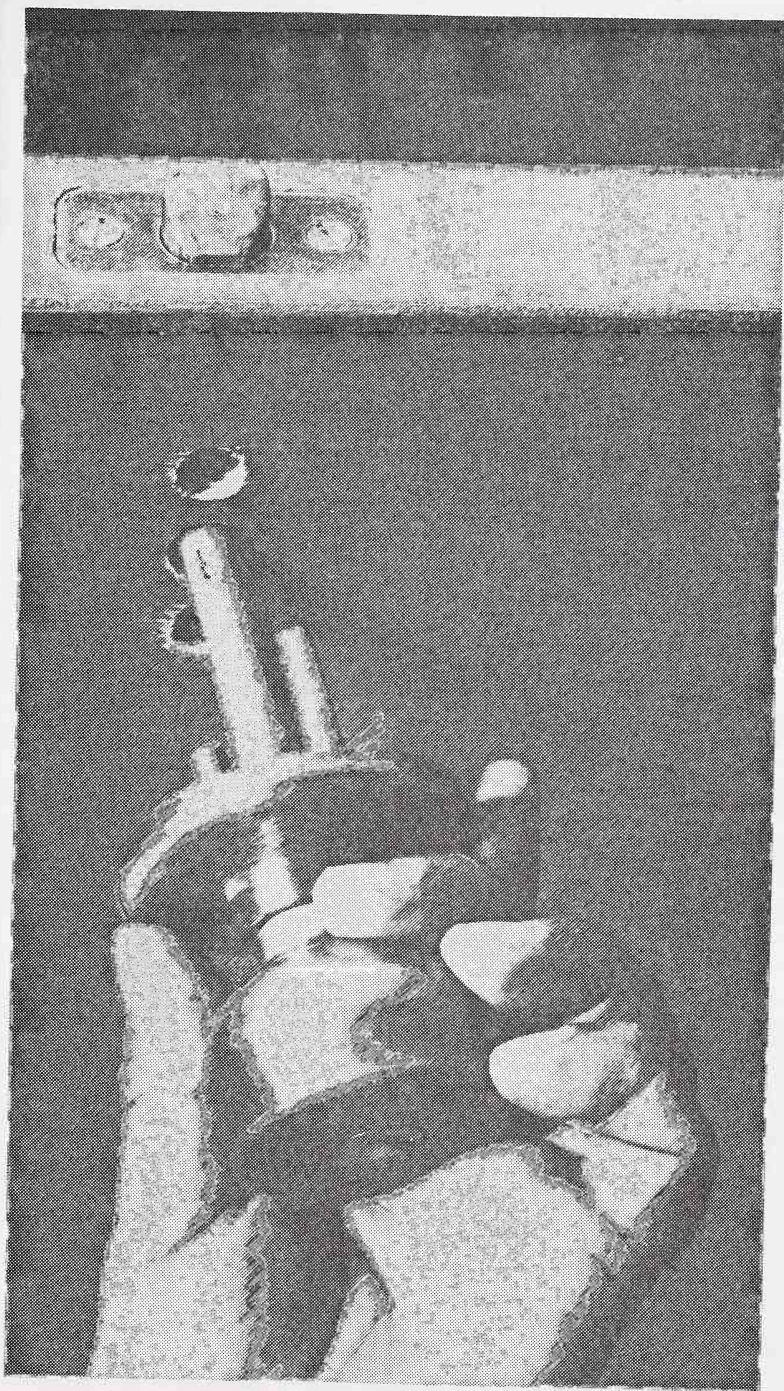

Fig. 18-96.
1. Remove the old lockset (Fig. 18-96).